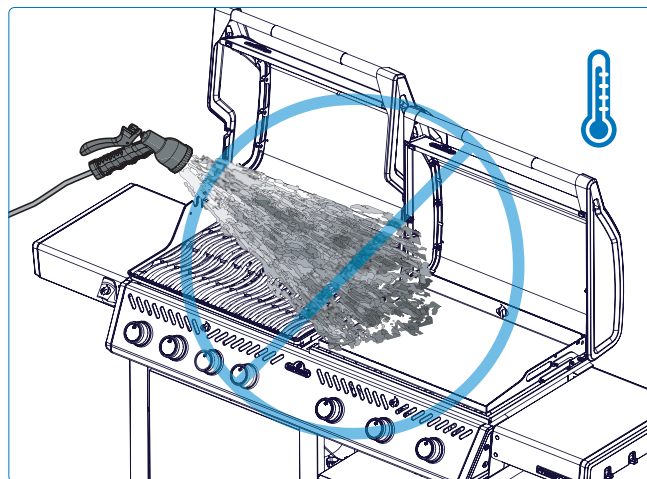

Fig. 31
- Never flood a hot griddle plate with cold water. This can cause warping or damage **(Fig. 31)**.
- Never douse a flame or control flare-ups with water **(Fig. 31)**.